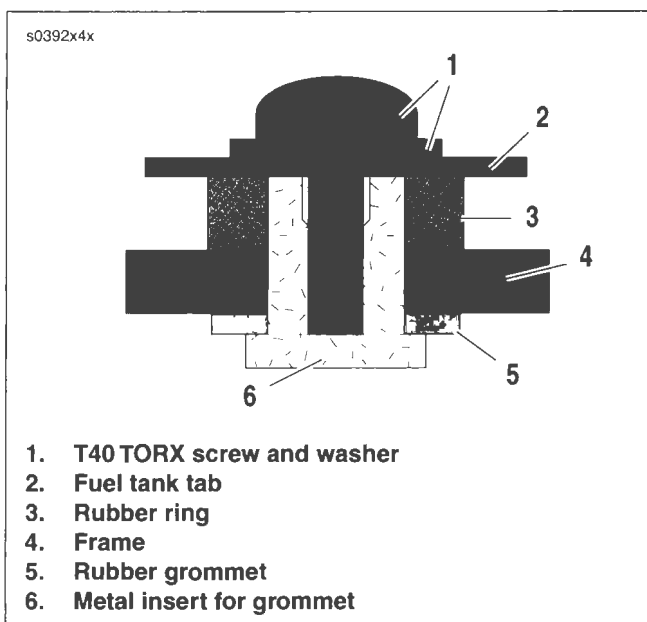

Figure 4-11. Rear Tank Screw
- b. See Figure 4-11. Verify that rubber grommet (5) and metal insert (6) are protruding through frame (4). Metal insert has flats on bottom for positioning. Place rubber ring (3) around grommet/insert and lower fuel tank tab (2).
- c. Install washer and rear T40 TORX screw (1) through fuel tank tab. Tighten to 18-22 ft-lbs (24.4-29.8 Nm).